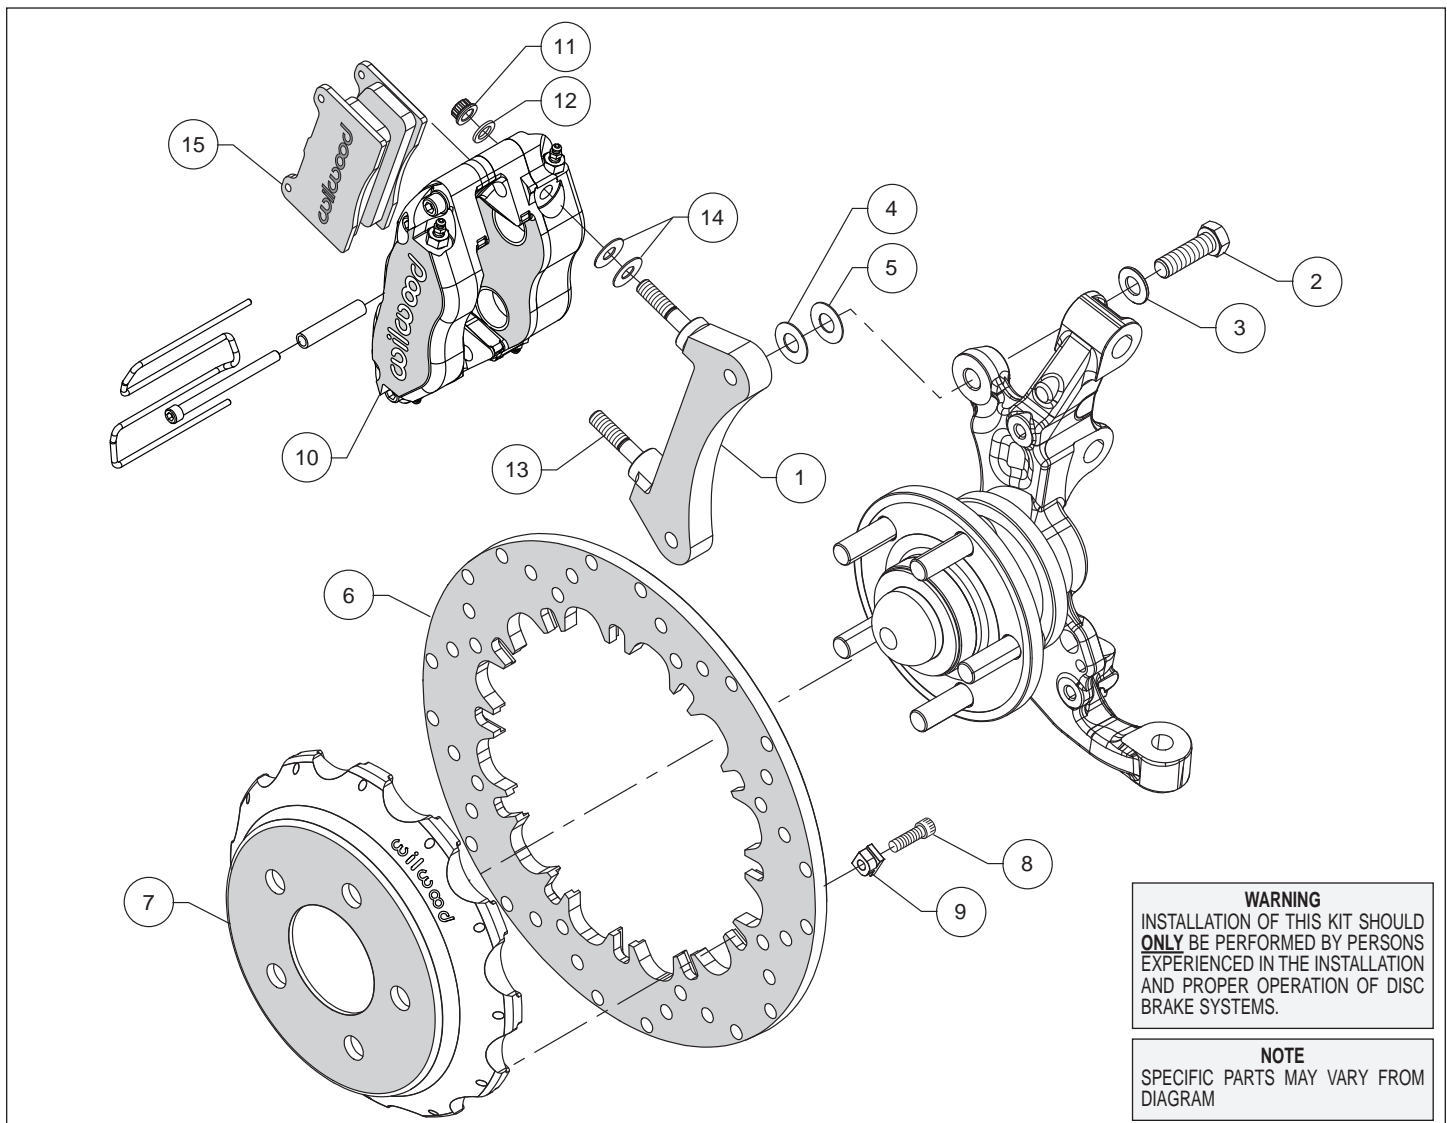
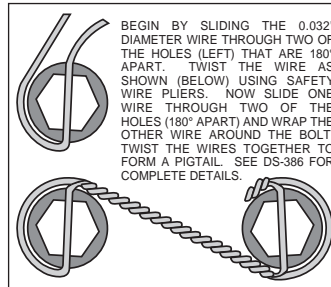

Figure 1. Typical Installation Configuration
Figure 3. Safety Wire Diagram
**Assembly Instructions** (numbers in parenthesis refer to the parts list and Figure 1 on the preceding pages):
- The caliper mount bracket (1) should initially be installed with clean, dry threads on the mounting bolts. Orient the bracket, as shown in Figure 1 and Photo 1, and install using bolts (2) and washers (3). Initially place one .033" thick shim (4) on each bolt between the bracket and upright, Figure 1. Temporarily tighten the mounting bolts. **NOTE:** *The bracket must fit squarely against the mount bosses on the upright.* Inspect for interference from casting irregularities, machining ridges, burrs, etc. Later, after the caliper alignment has been checked, the mount bolts will be secured using red *Loctite*® 271.
- Orient the rotor (6) and the hat (7) as shown in Figure 1 and Photo 2. Attach rotor to hat using bolts (8) and t-nuts (9). Using an alternating sequence, apply red *Loctite*® 271 to the threads, and torque to 120 **in-lbs**. The bolts must be safety wired using standard 0.032 inch diameter stainless steel safety wire as shown in Figure 3. Refer to Wilwood's data sheet DS-386 (available at [www.wilwood.com/Pdf/DataSheets/ds386.pdf](http://www.wilwood.com/Pdf/DataSheets/ds386.pdf)) for complete safety wire installation instructions.
- Lubricate the caliper mounting studs (13) with lightweight oil. Initially place two .035" thick shims (14) on each stud as shown in Figure 1 and Photo 4. Mount the caliper (10) onto the bracket (1) using lock nuts (11) and washers (12), Figure 1. Temporarily tighten the lock nuts and view the rotor through the top opening of the caliper. The rotor should be centered in the caliper, Photo 5. If not, adjust by adding or subtracting shims (4 and/or 5) between the bracket and the mounting bosses. Once the caliper alignment is correct, remove the bracket mounting bolts one at a time, apply red *Loctite*® 271 to the threads, and torque to 60 ft-lbs.
- Insert the brake pads (15) into the caliper with the friction material facing the rotor (6), as shown in Figure 1 and Photo 6. Check that the top of the brake pad is flush with the outside diameter of the rotor, Photo 7. If not, adjust by adding or subtracting shims (14) between the caliper and the bracket. After the caliper pad height is set, torque the caliper lock nuts (11) to 30 ft-lb. Secure the pads in place using the pad clip retainer as well as the center bridge pad retainer tube, bolt, and locknut, Photo 8. The locknut should be snug without play in the bolt or tube. Be cautious not to over tighten.